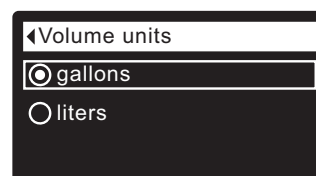

FIG. 52
5. Press the SELECT (O) button to display the Volume units menu (See Figure 52).
6. If the desired volume unit already has a dot next to it (See Figure 52), go to Step 7. Otherwise, press the DOWN (▼) or UP (▲) buttons to scroll to the other volume unit, then press SELECT (O) to choose it.
7. Press the SELECT (O) button. The display will go back to the User preferences menu.